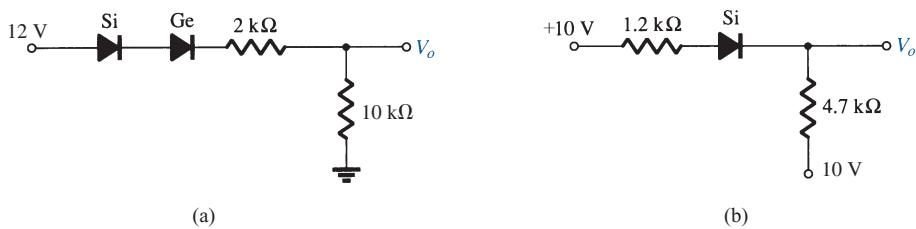

FIG. 157
- *7. Determine the level of V_o for each network of Fig. 157.